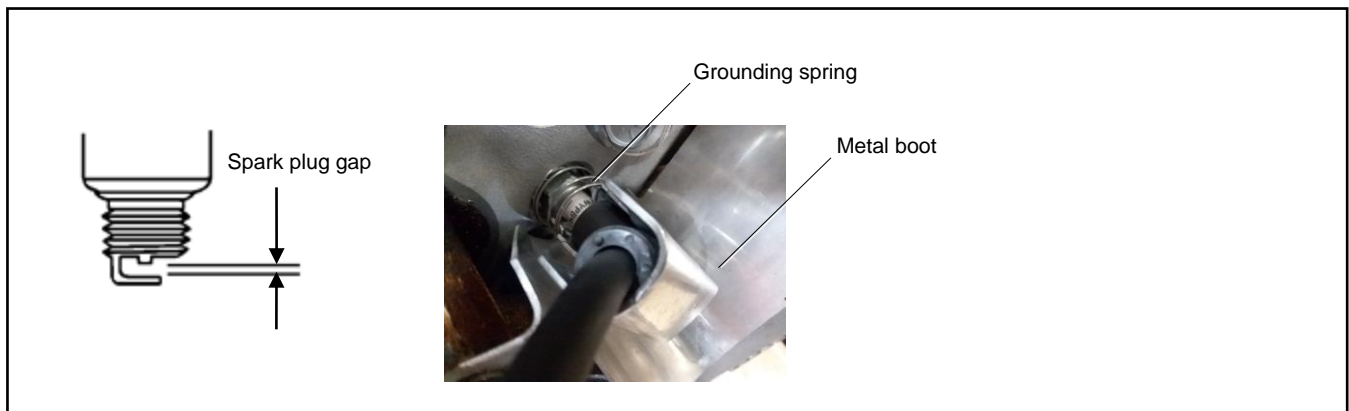

Figure 24 Spark Plug Gap
7. Use a spark plug gap tool to measure the gap on each spark plug. Adjust the gap to specification. See Figure 24.
10. Insert the grounding spring over the spark plug. See Figure 24.